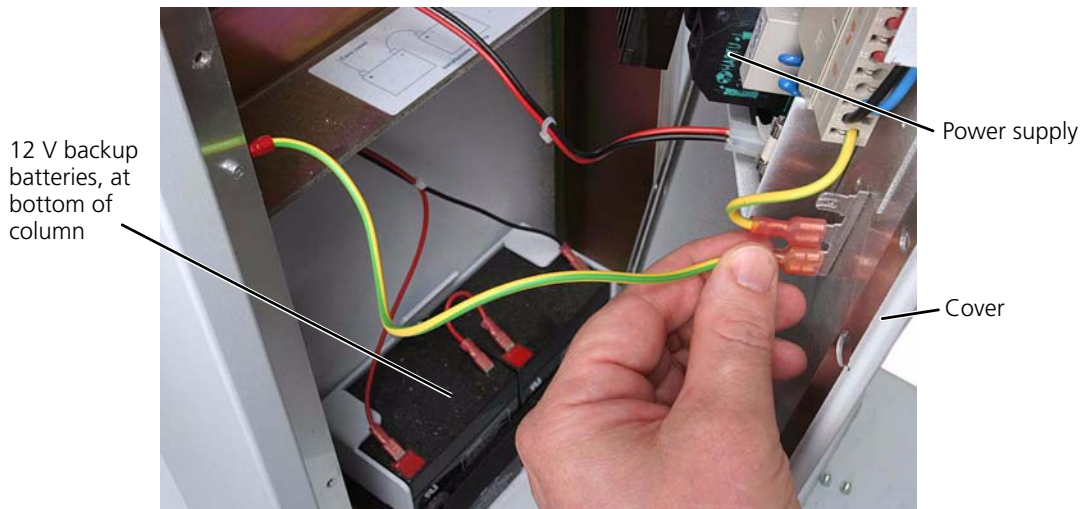

Figure 8-4. Checking the ground wire between column and column cover
- b. Identify and test the ground wire connecting the cover to the column. (Figure 8-4.)